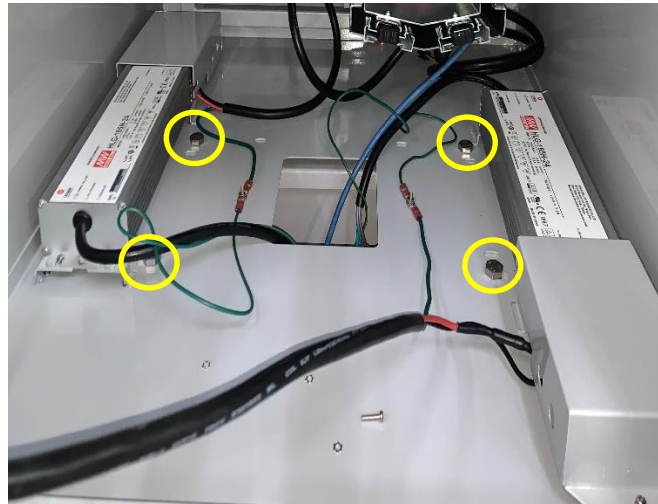

Fig 2.6a – Type C (Gilbarco)
- a) Mount the RF00012-XX on the top of pedestal stand. Align with the correct set the holes on the underside of the RF00012-XX or RF00042-XX pedestal assembly (Fig 2.6a).